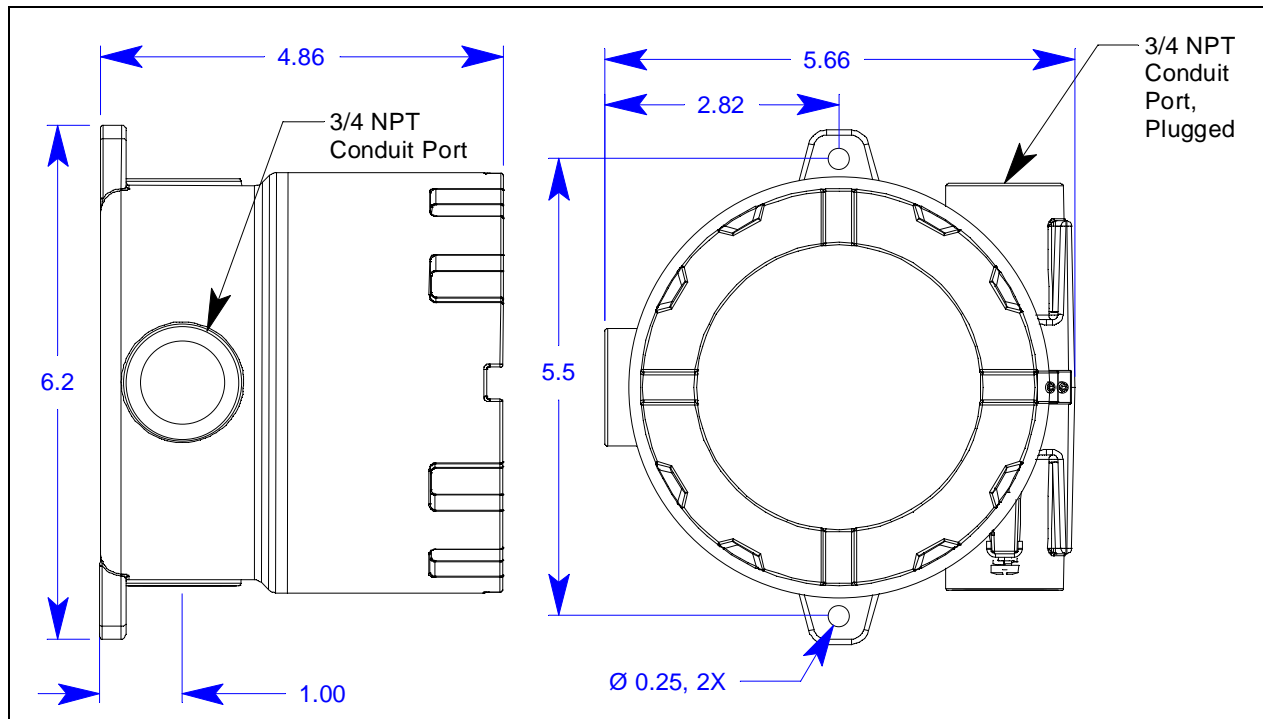
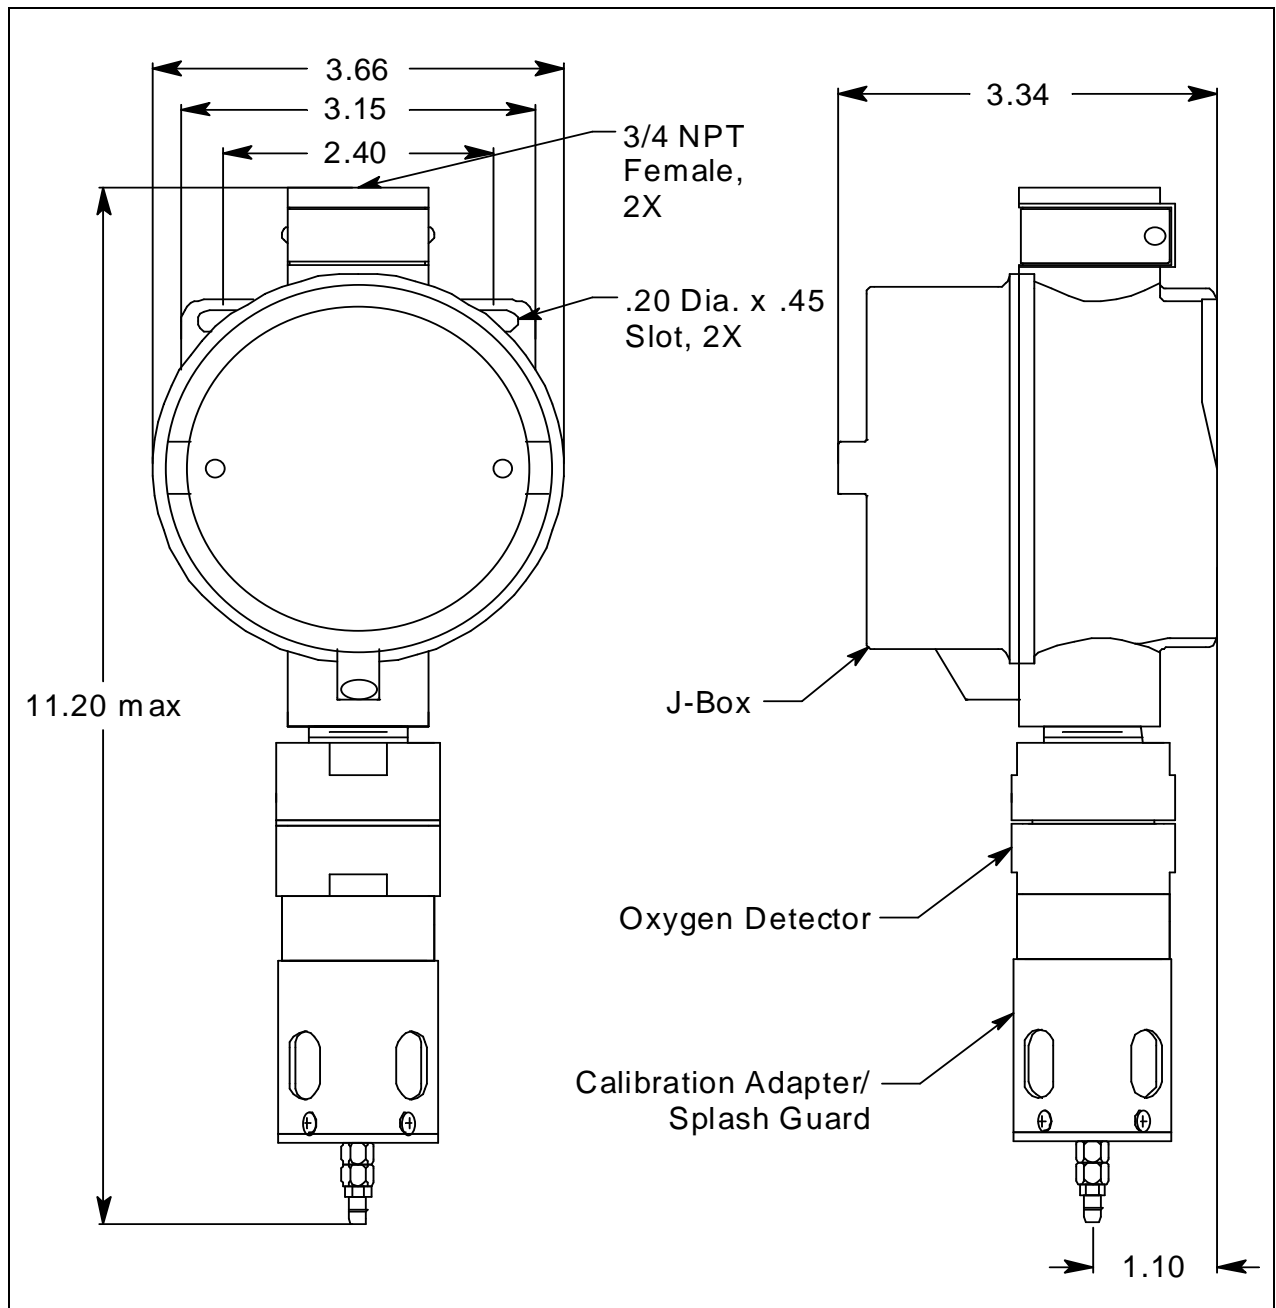

Figure 6: Outline & Mounting Dimensions, M2A-XL Junction Box
Figure 7: Outline & Mounting Dimensions, Detector Junction Box
2. Use #10 screws through the M2A-XL junction box's two mounting holes to secure the junction box to a vertical surface. Figure 6 shows the outline and mounting dimensions for the M2A-XL junction box. Figure 7 shows the outline and mounting dimensions for the detector junction box. Mount the detector junction box with the detector facing down as shown in Figure 7.